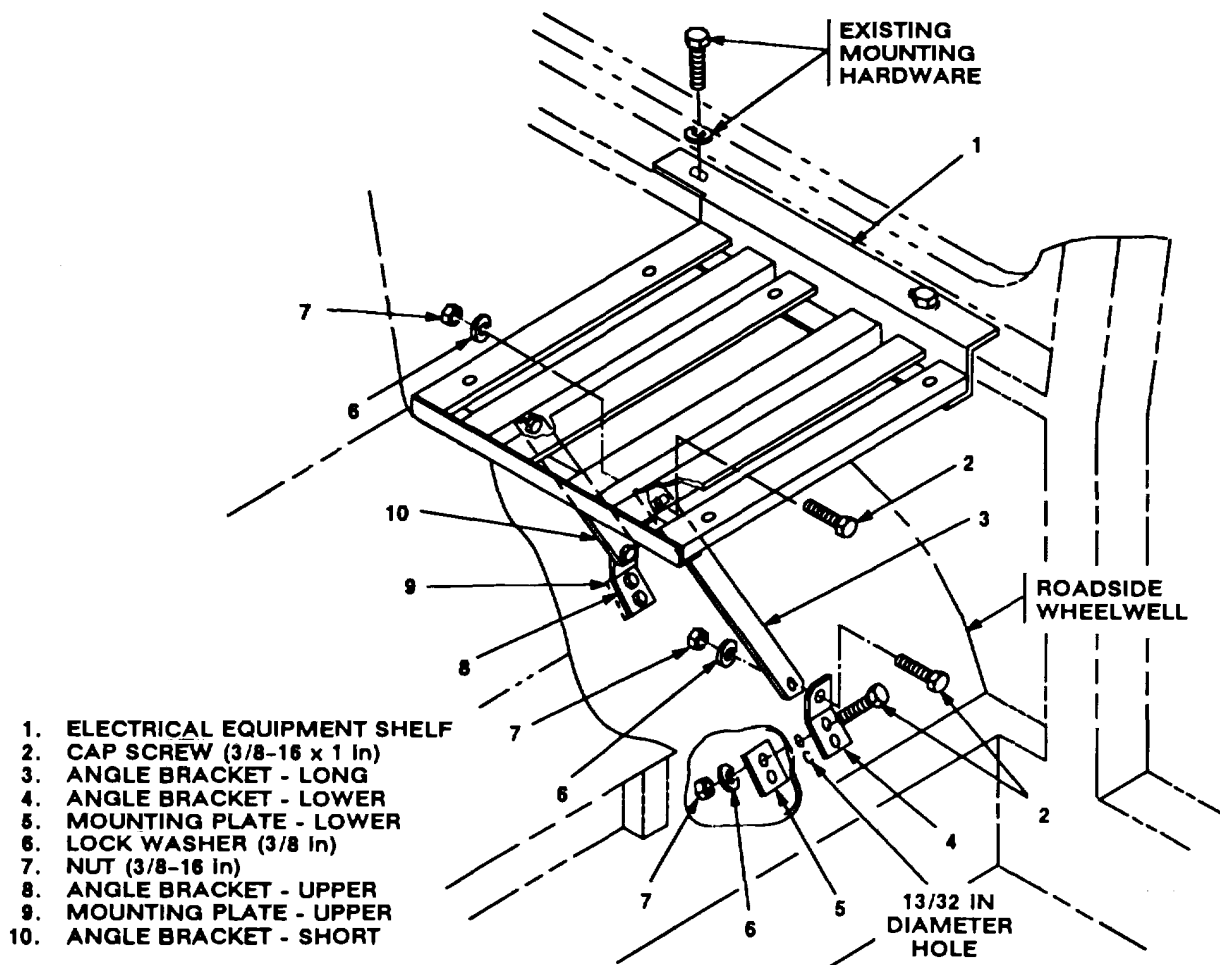

Figure 5-4. Electrical Equipment Shelf Installation: Rear Roadside
e. Mounting holes for angle brackets (4,8).	Temporarily secure electrical equipment shelf (1) to window frame with existing mounting hardware; then place angle brackets on wheelwell and mark four points to drill. See figure 5-4.
f. Electrical equipment shelf (1) and existing mounting hardware.	Temporarily remove.
h. Electrical equipment shelf (1).	Place on window frame and aline holes in angle brackets (4, 8) with holes drilled in step g.
i. Existing mounting hardware.	Install and secure to electrical equipment shelf (1) and window frame.
j. Four cap screws (2).	Insert through holes in angle brackets (4, 8) and holes drilled in step g.
k. Mounting plate (5), two washers (6) and two nuts (7).	lock From under wheelwell, install and secure to two cap screws (2) in angle bracket (4).	Tools: 9/16 in socket and 9/16 in open/box wrench.
l. Mounting plate (9), two washers (6) and two nuts (7).	lock From under wheelwell, install and secure to two cap screws (2) in angle bracket (8).	Tools: 9/16 in socket and 9/16 in open/box wrench.